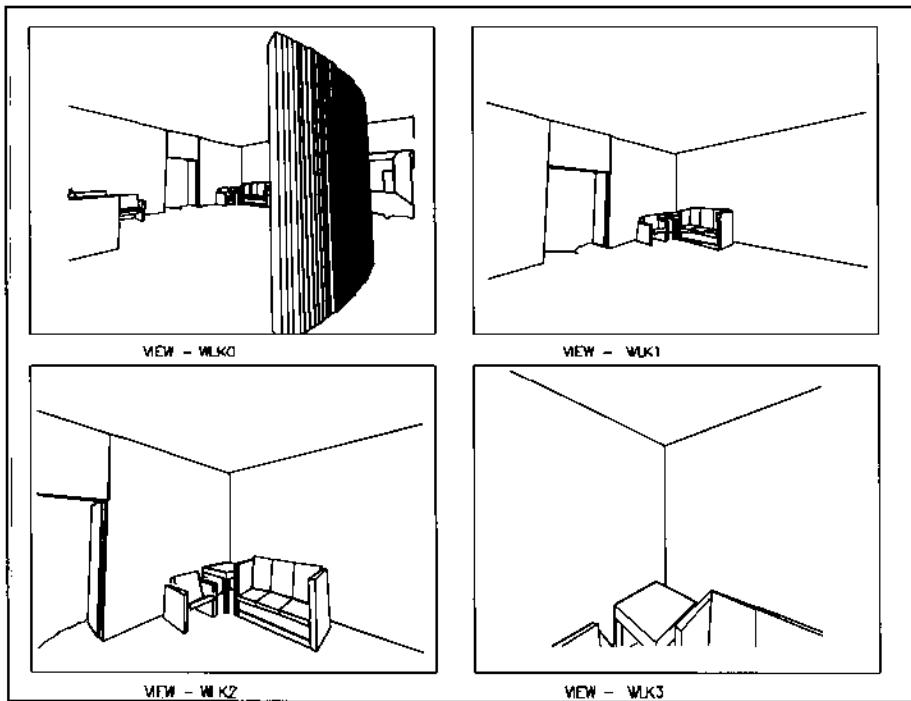

Figure 12.
7. Enter Script at the command line to display the Select Script File dialog box and select the WLK file as shown in Figure 12.